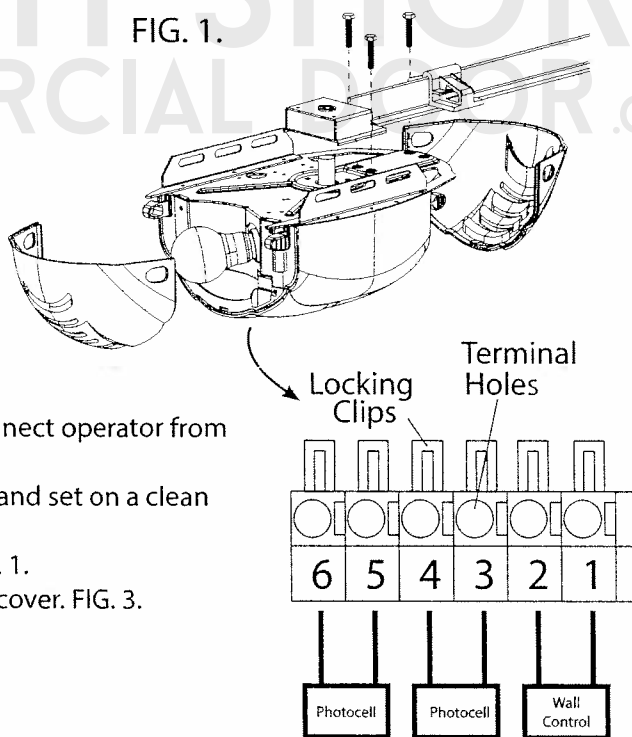

FIG. 2.
5. Remove door arm clevis pin and cotter-hairpin to disconnect operator from door. FIG. 2.